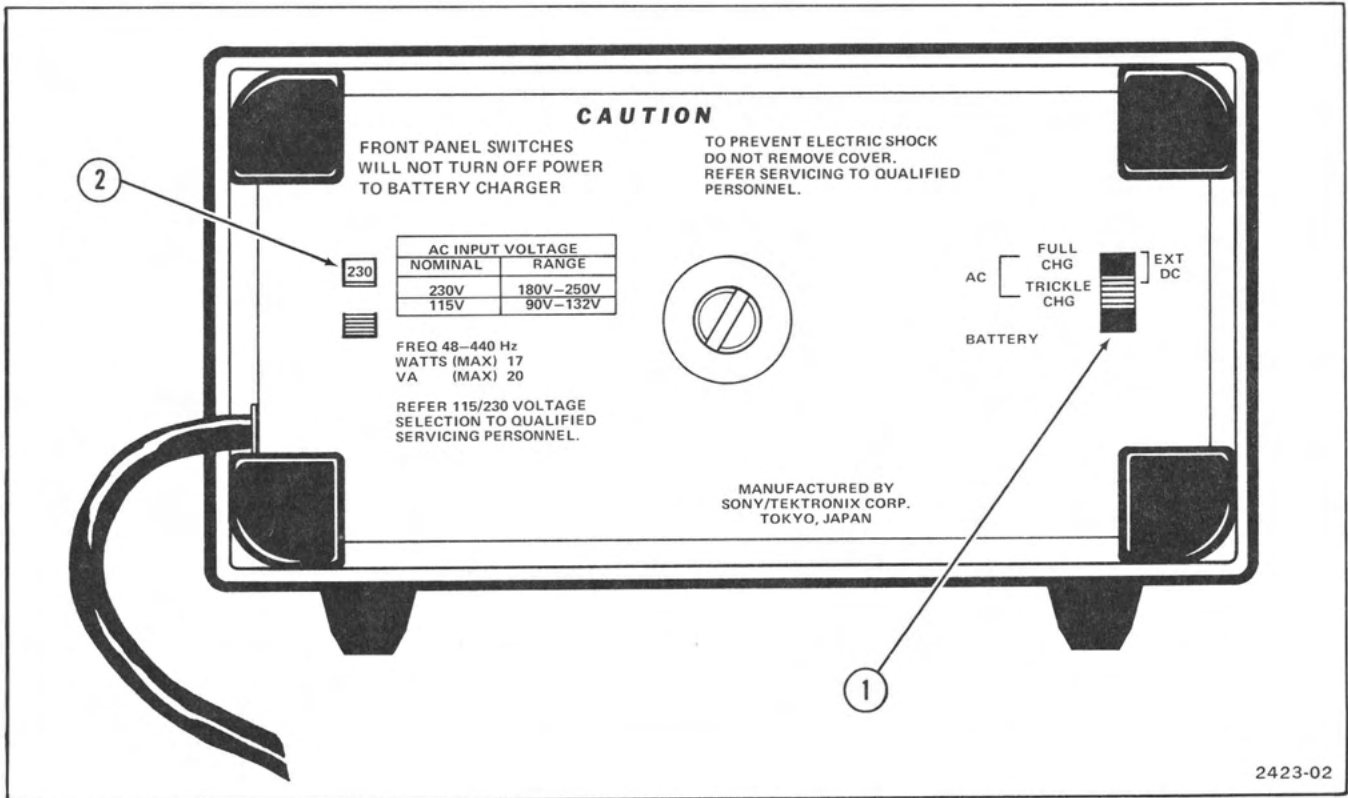

Fig. 2-2. View of rear cover.
The 305 can operate from an external dc power source of +9 to +32 Vdc. Set the Power Source Selector switch to the EXT DC position (Fig. 2-1). Apply external dc voltage to the two banana jack inputs using the cable assembly supplied with the instrument (Fig. 2-2).
The major controls and connectors necessary for proper operation of the instrument are located on the front, side, and rear cabinet panels. Some auxiliary adjustments are accessible through the bottom of the cabinet. Figures 2-2 through 2-9 show views of the instrument with the controls and connectors called out. The circled numbers correspond to the discussion about each control and connector. Figure 2-11 shows the location of the auxiliary adjustments and the purpose of the controls. The auxiliary adjustments are made only
- 1 **Power Source Selector switch.** Three-position switch provides operator selection of ac-source voltage, external dc voltage, or internal battery operation. The AC position, in conjunction with the AC INPUT VOLTAGE Selector switch, allows the 305 to be operated over two ranges of ac-source voltage. The Power Source Selector switch also provides for operator selection of either full-charge rate or trickle-charge rate to the internal battery of the instrument (Fig. 2-2).